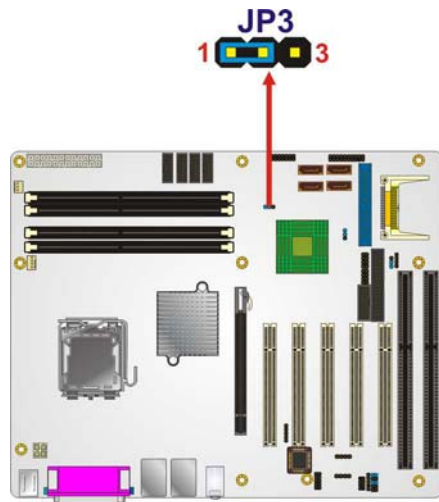

Figure 5-10: AT Power Select Jumper Location
- Jumper Location:** See Figure 5-10
The location of the AT Power Select jumper is shown in Figure 5-10 below.